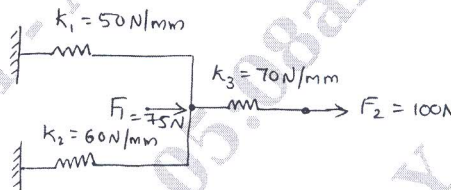

Fig.Q2(b)
b. Using principles of minimum PE, determine the nodal displacement for spring system shown in Fig.Q2(b).